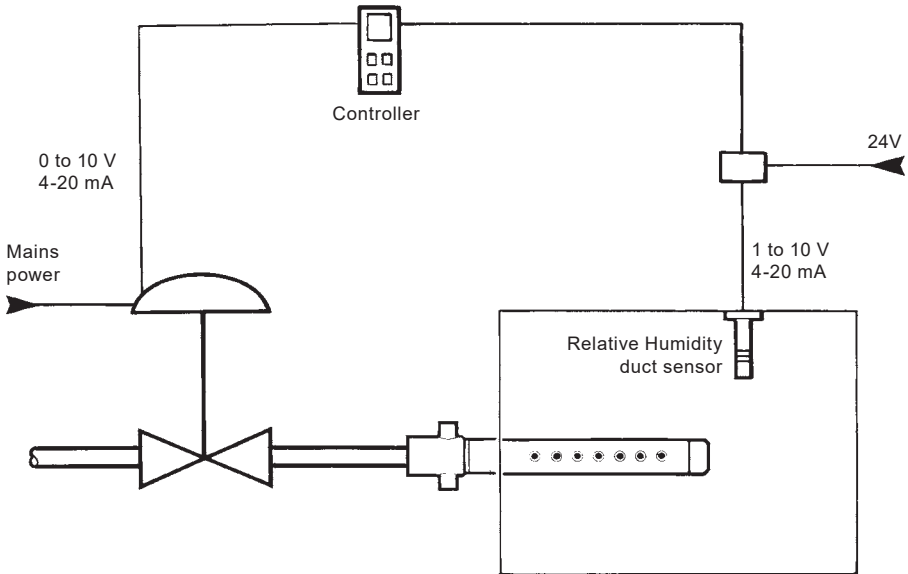

Fig. 21
- 3.10.4 Figure 21 shows a typical electric control system.